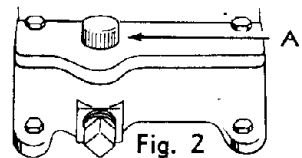

Fig. 2
6. FILL THE CRANKCASE WITH SAE NO. 30 MOTOR OIL. Filler plug (fig. 2-"A") has measuring stick attached. OIL LEVEL MUST COVER THE TOP GROOVE. CHECK OIL LEVEL WITH FILLER PLUG SCREWED ON FINGER TIGHT. Capacity 1½ pints.
The oil filler plug is conveniently located at front of engine. Filler plug has measuring stick attached. Drain plug is located immediately below filler. See fig. 2.